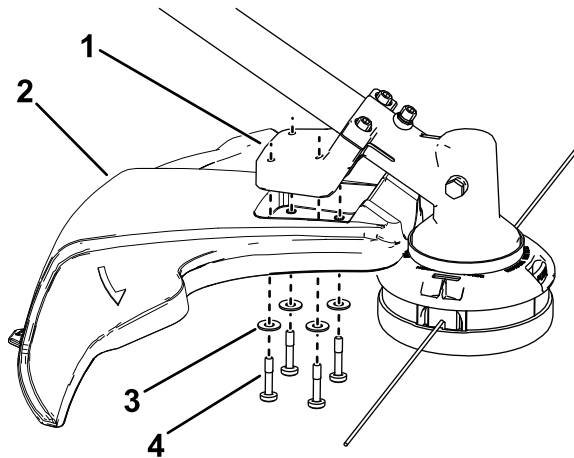

Figure 5
1. Align the trimmer guard beneath the guard mount as shown in Figure 5.
2. Secure the guard to the trimmer using the 4 washers and 4 bolts as shown in Figure 5.